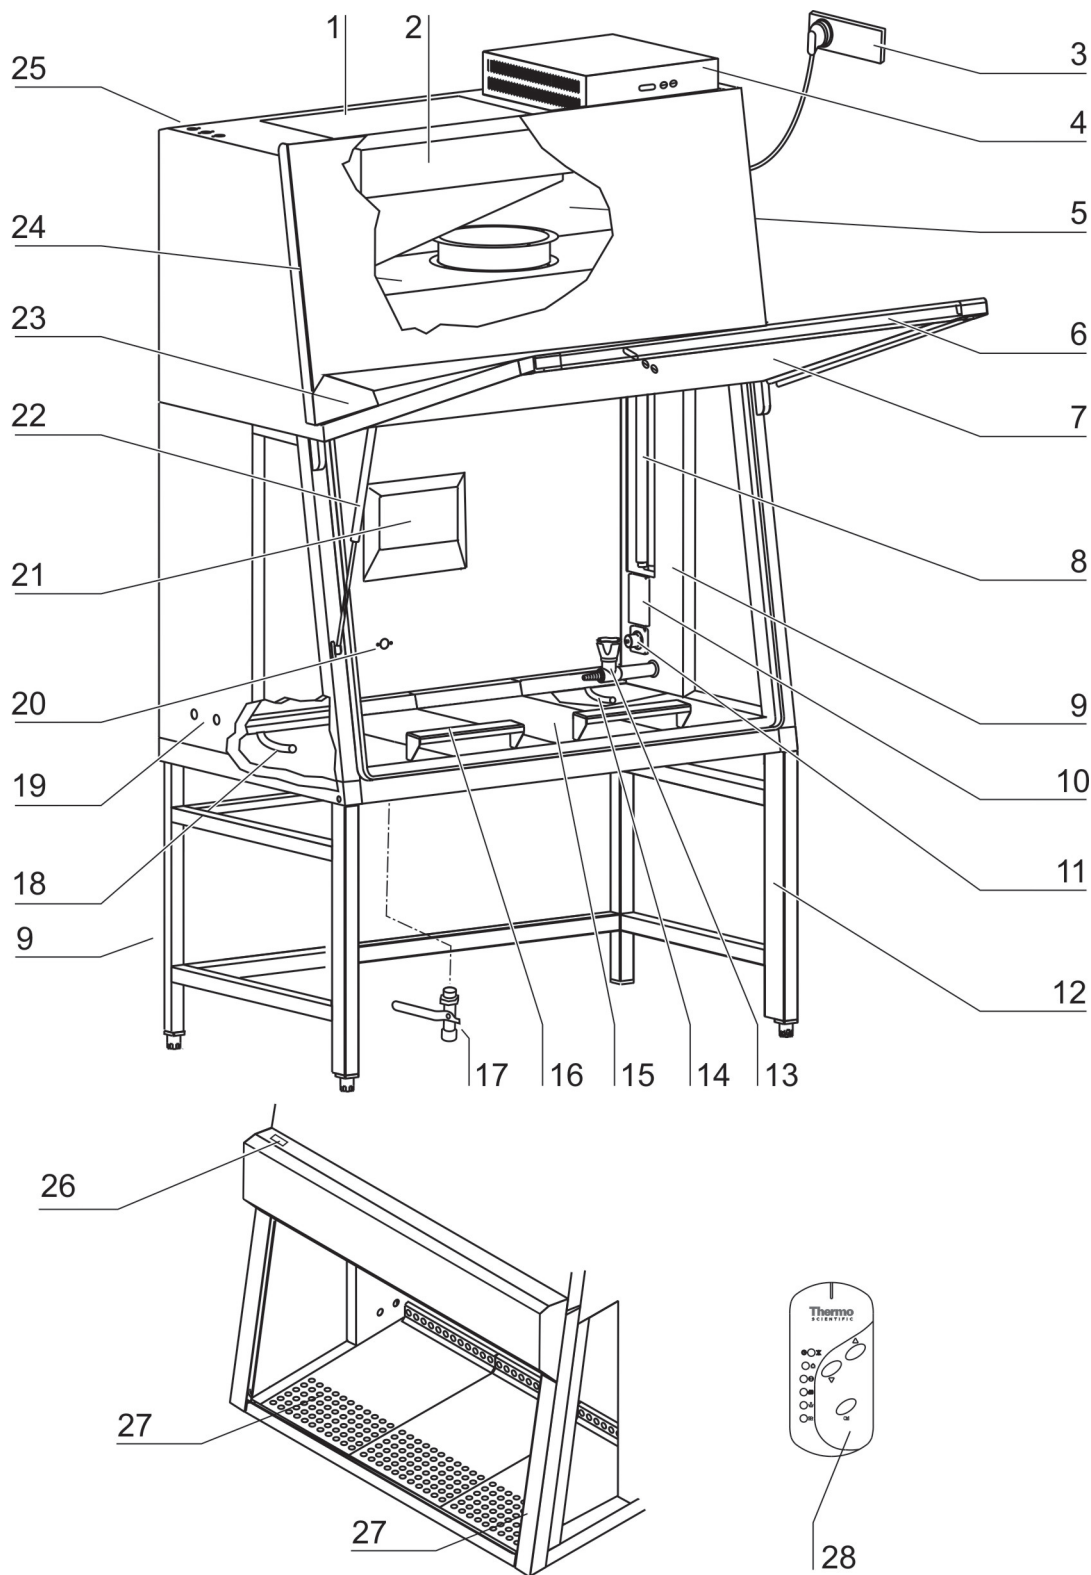

Fig. 3a
- **Fig. 3a:** Plenum assembly [5] with plenum for downflow blower [24] and plenum for exhaust air blower [2]. The downflow filter and the exhaust air filter are installed directly to the relevant blower. The exhaust air is released into the environment around the device through the opening [1].